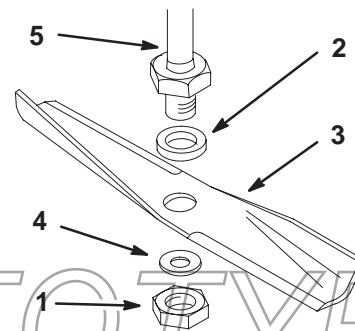

Figure 27
Note: Make sure the blade and hardware are install in the positions shown in Figure 27.
3. Remove the nut, washer (thick), blade and flat washer (Fig. 27). A block of wood may be wedged between the blade and the mower to lock the blade when you are removing the bolt.